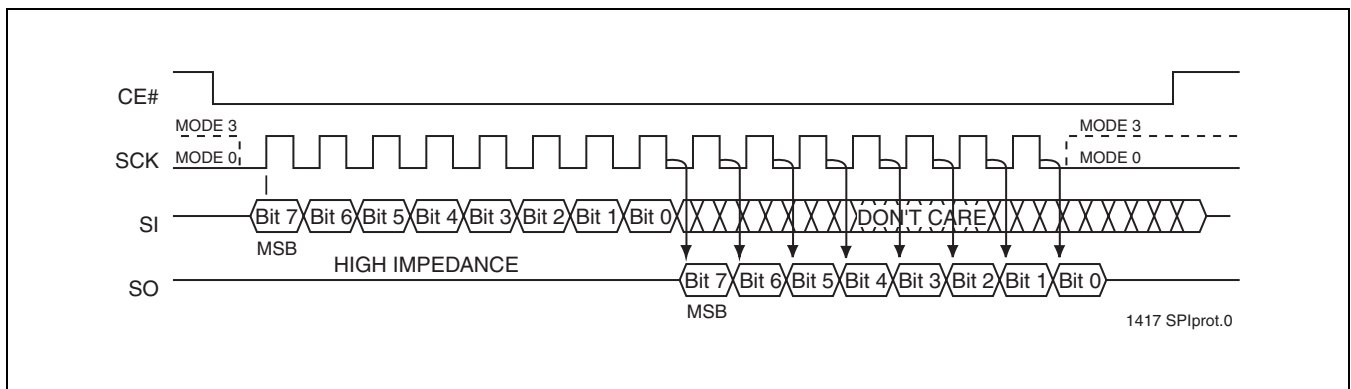

FIGURE 3: SPI Protocol
The SST25VF020B supports both Mode 0 (0,0) and Mode 3 (1,1) of SPI bus operations. The difference between the two modes, as shown in Figure 3, is the state of the SCK signal when the bus master is in Stand-by mode and no data is being transferred. The SCK signal is low for Mode 0 and SCK signal is high for Mode 3. For both modes, the Serial Data In (SI) is sampled at the rising edge of the SCK clock signal and the Serial Data Output (SO) is driven after the falling edge of the SCK clock signal.